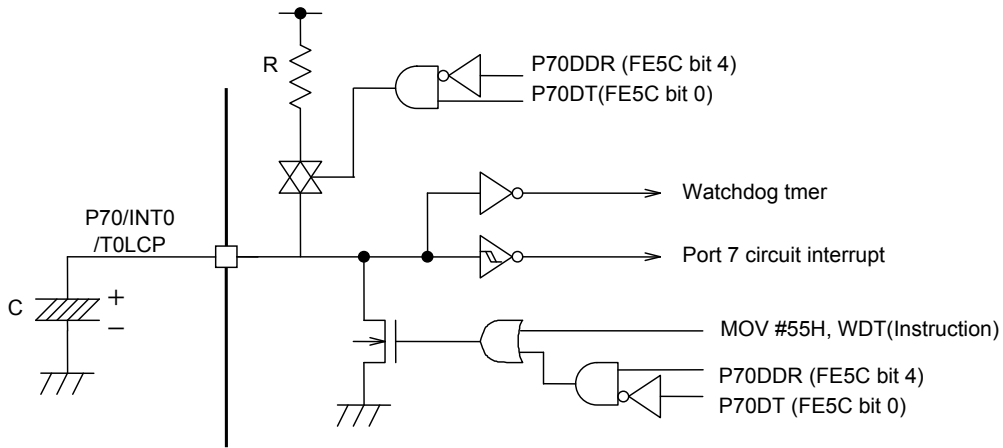

Figure 4.5.3 Sample Application Circuit with a Pull-up Resistor
- 3) The external resistor to be connected to the watchdog timer can be omitted by setting bits 4 and 0 of the port 7 control register P7 (FE5C) to 0, 1 and connecting a pull-up resistor to the P70/INT0/T0LCP pin (see Figure 4.5.3).